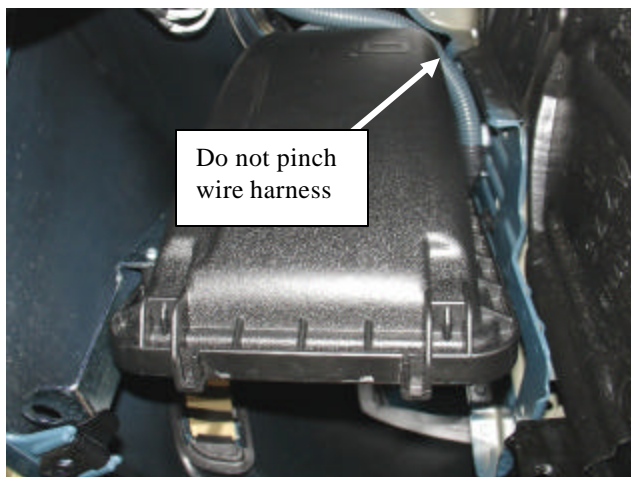

Fig. 4-4
- (1) Install from the bottom of the car.
- (2) Route the wire harness so it does not get pinched between the vehicle frame and the outlet assembly. (Fig. 4-4)